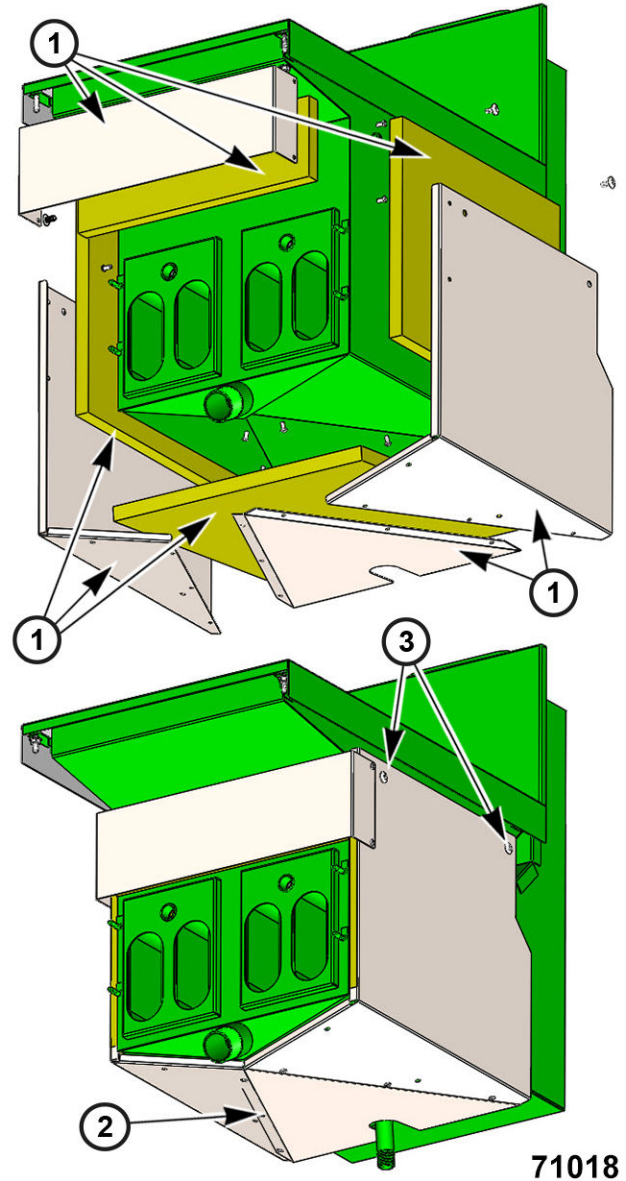

Fig. 120
- A. Set into place as shown (1, Fig. 120).
- B. Rivet (3/16" blind rivets) sections to itself (2, Fig. 120).
- C. Attach kit assembly to tank with four 1/4-20 x 3/8 truss head screws, two on each side (3, Fig. 120).